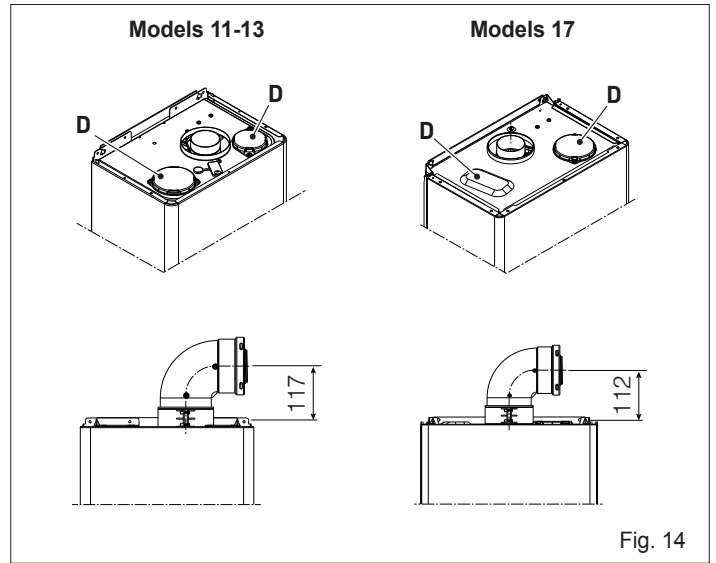

Fig. 14
The boiler has been designed to be connected to concentric discharge/suction pipes and with the opening for air suction (D) closed (Fig. 14).